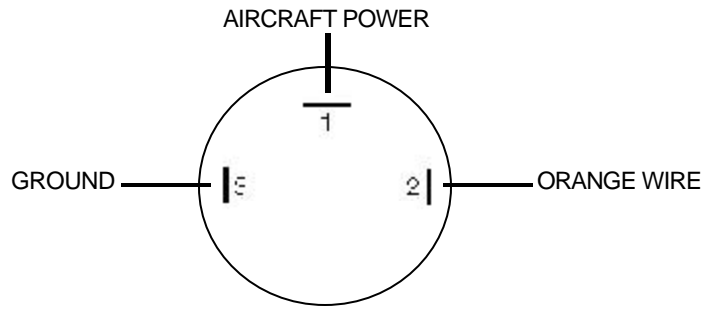

Figure 7
- I. Enunciator Light Option (refer to Figure 7):